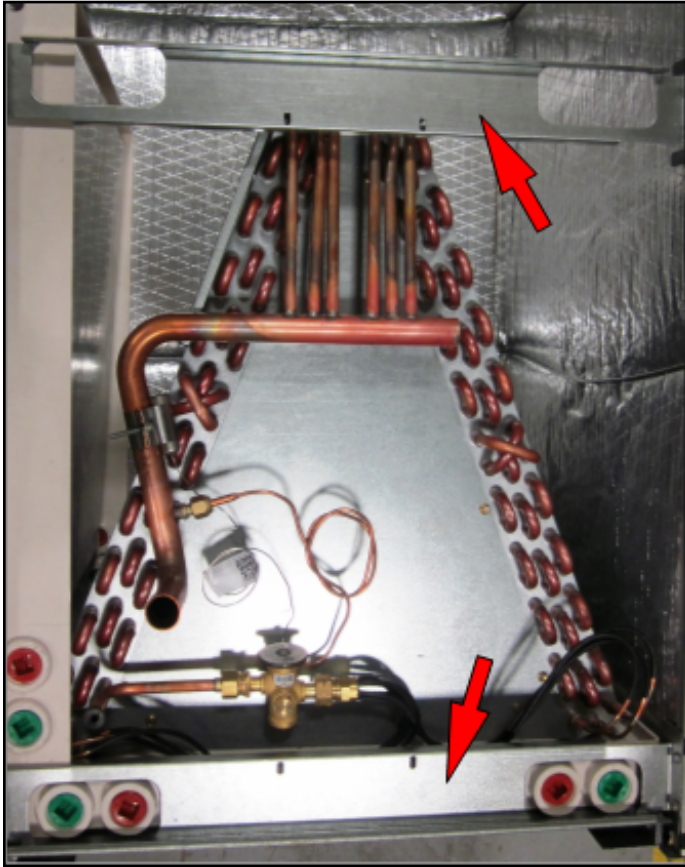

Figure 4
2. Remove brackets securing pans to unit. See figure 4.